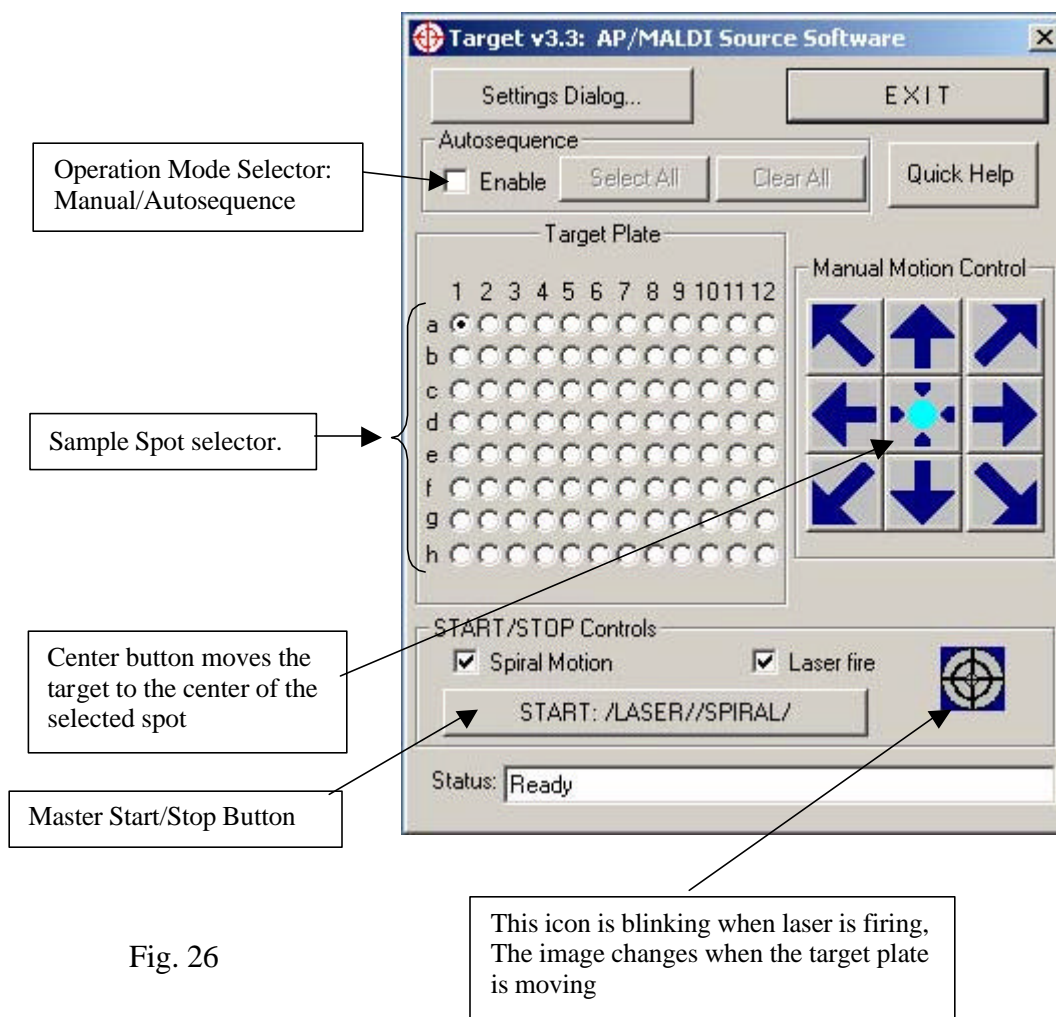

Fig. 26
After the installation process is completed, start the Target program in your conventional way. The Target window (Fig.26 above) appears.
There are two modes of operation for the Target software: Manual (Enable/Autosequence Check Box is clear) and Autosequence. Switch between the modes by checking/unchecking the "Enable" Box. In manual mode, only one Radio Button of the group "Target plate" can be selected. Click any spot in the Target Plate field and the target plate will move to the selected position. You can shift the position of the spot by clicking the arrow buttons placed around the Center button (See Fig. 26). Click the Center button to restore the central spot position.
4. Click on the desired sample using the sample spot selector (map) provided in the *TARGET* software window (see Fig. 26). The target plate will move to this sample position and stop near its center (this is observable on the LCD monitor screen).
1. **Check** the “Autosequence-Enable” check box in the main *TARGET* software window (see Fig. 26) and **uncheck** the “Contact Closure Timing” check box in the *TARGET*'s “Settings Dialog” window (see Fig. 28).
2. **Check** the “Autosequence-Enable” check box in the main *TARGET* software window (see Fig. 26) and **check** the “Contact Closure Timing” check box in the *TARGET*’s “Settings Dialog” window (see Fig. 28).